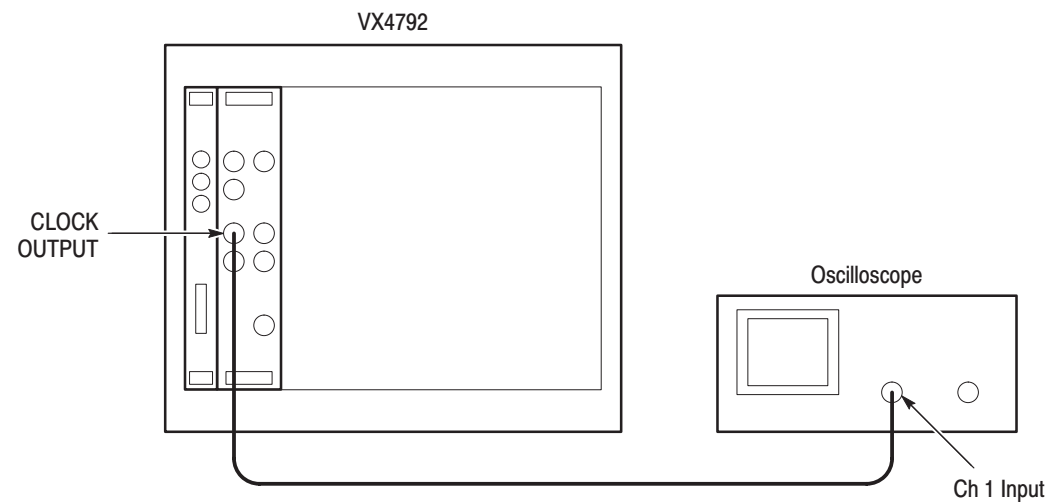

Figure F-13: Clock Amplitude Initial Test Setup
1. *Install test setup and set test equipment controls (see Figure F-13):*